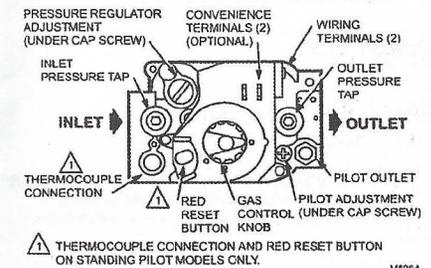

Fig. 1. Top view of VR8200 combination gas control.
2. Remove regulator cap screw and pressure regulator adjusting screw. Refer to Fig. 1.
- Remove pilot adjustment cap screw. Refer to Fig. 1.
- Remove outlet pressure tap plug from gas control and connect pressure gauge. Refer to Fig. 1.